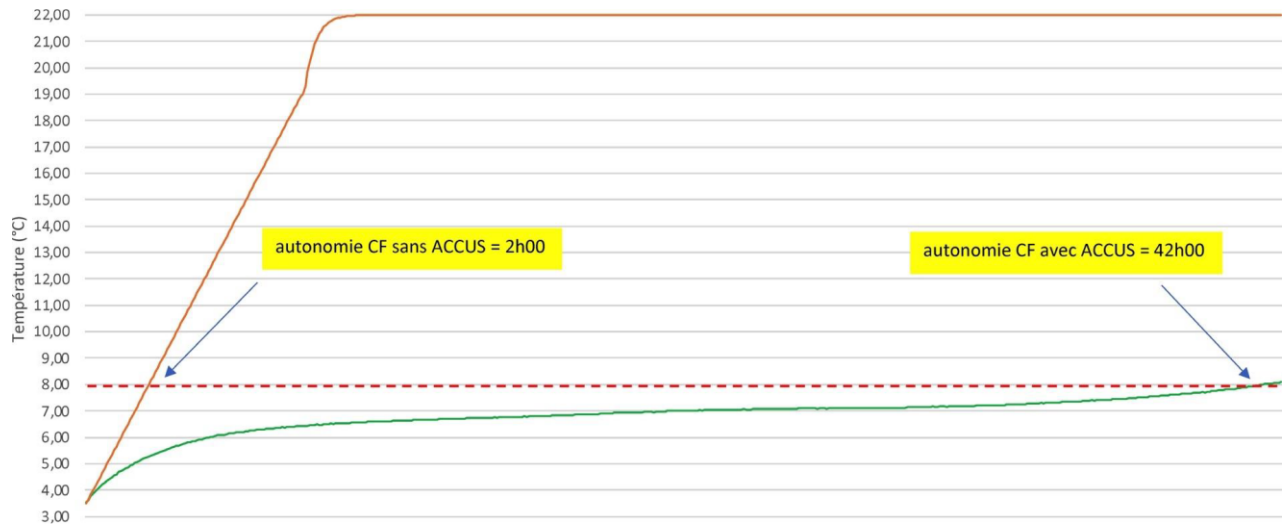

Figure 5: Cold-room temperature rise time with PCM (green colour) and without PCM (orange colour) after test room cooling switched off
- As seen in Fig. 5, the cold room has a 4 °C temperature rise in 2 hrs without PCM while it takes 42 hours for the same temperature rise to happen with the presence of PCM Batteries.